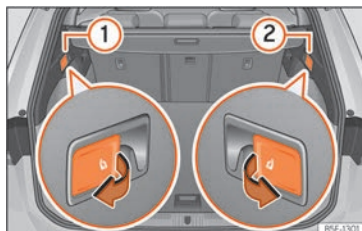

Fig. 106 In the luggage compartment: levers to unlock the rear backrest.
- Pull the remote release lever of the left part >>> **Fig. 106** ① or right part ② of the backrest in the direction of the arrow. The released part of the rear seat backrest is folded automatically down and forwards.